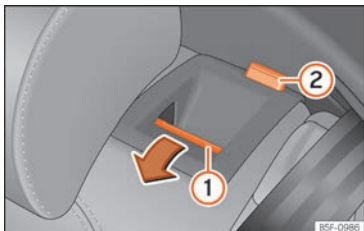

Fig. 112 Rear seat: folding the backrest.
- Pull the unlock button »» **Fig. 112** ① forward and lift the backrest at the same time. The rear seat backrest is not engaged when the red marking of the button ② is visible.